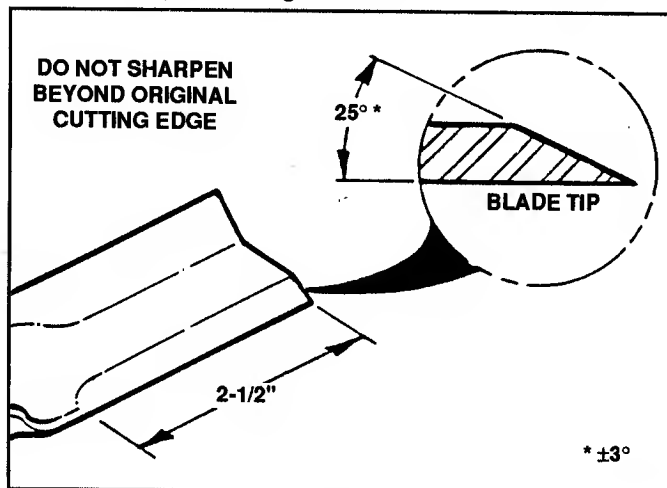

FIGURE 4.21
4. If blade is in good condition, sharpen at 25° ($\pm 3^\circ$). Do not sharpen beyond existing cutting edge. See Figure 4.21.